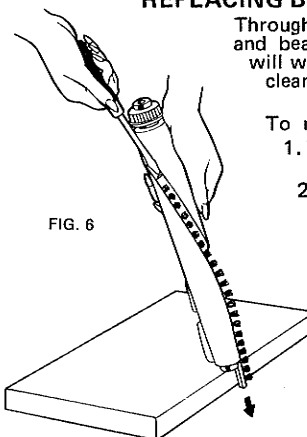

FIG. 6
4. Slide the beater bar or brush strip out of the wooden roller, using pliers if necessary. It may be helpful to first push the strip away from the pulley end of the roller bar, using a screwdriver. (See Fig. 6) Exercise care when using hand tools.